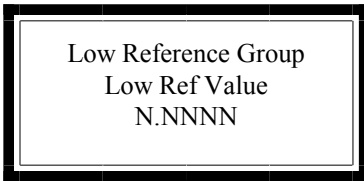

Figure 9b: The Low Referencing Value
- 3) Toggle the “Prev” key until you reach “Low Reference Value” Menu, Figure 9b, and set the value to 1.00 SpG or the desired Low Reference Value. (See chapter 9 on modifying Menu Variables).